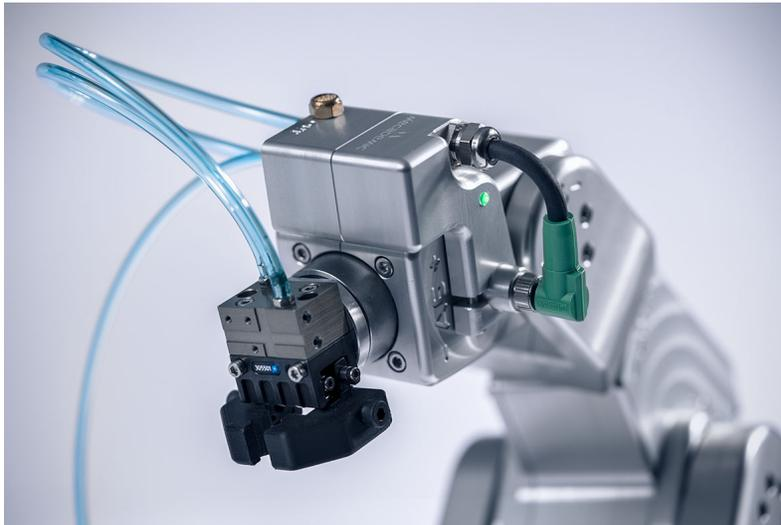
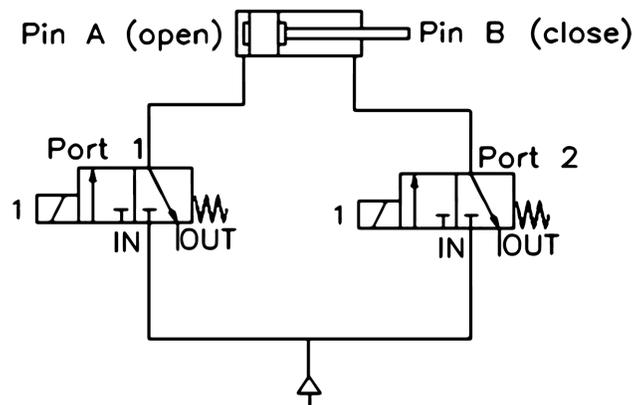

Figure 4: Pneumatic module connected to the Meca500 and to a double-action pneumatic gripper (MGP-plus 25, provided by Mecademic as a kit with the MPM500)
Figure 5: Pneumatic circuit in the case of a double-action pneumatic gripper
6. After activation of the Meca500, the green LED on the module should emit steady light, indicating that the electrical connection is functional, as shown in Figure 4.
To connect your MPM500 to a double-action pneumatic gripper, as in Figure 4, follow the circuit of Figure 5. The compressed air should be introduced in the MPM500's IN port. It will be distributed to both 3/2 NC valves. The solenoid switch activates one valve which allows for the gripper to open/close its fingers, depending on which valve is activated. The gripper's pneumatic connectors should go in the MPM500's Port 1 and Port 2.